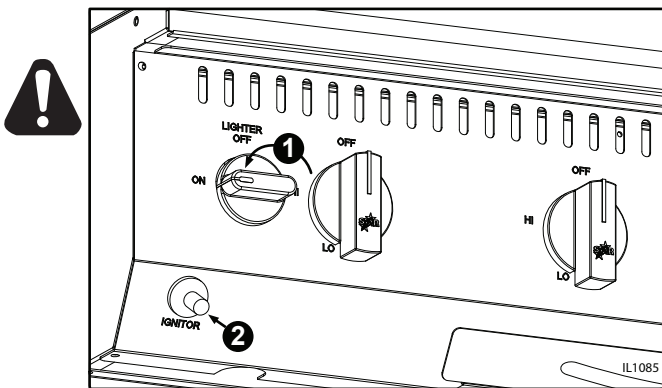

Fig. 1, Turn on Gas Supply and press the igniter button to ignite the igniter tube.
3. Turn the red knob counter clockwise to the "ON" position and press in the igniter button on the side to be lit. It may take several tries on the igniter button to get the small igniter tube lit (Fig 1).